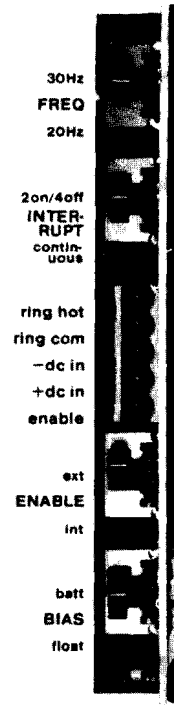

figure 3. Rear panel of 8103
- D. Ensure that the plug-in screw-terminal strip is removed from the 8103's rear panel (see **caution** below). Then connect all required wiring to the terminal strip. Refer to the legend on the 8103's rear panel (see figure 3) and/or to table 1 (see paragraph 2.05) for the correct wiring order.